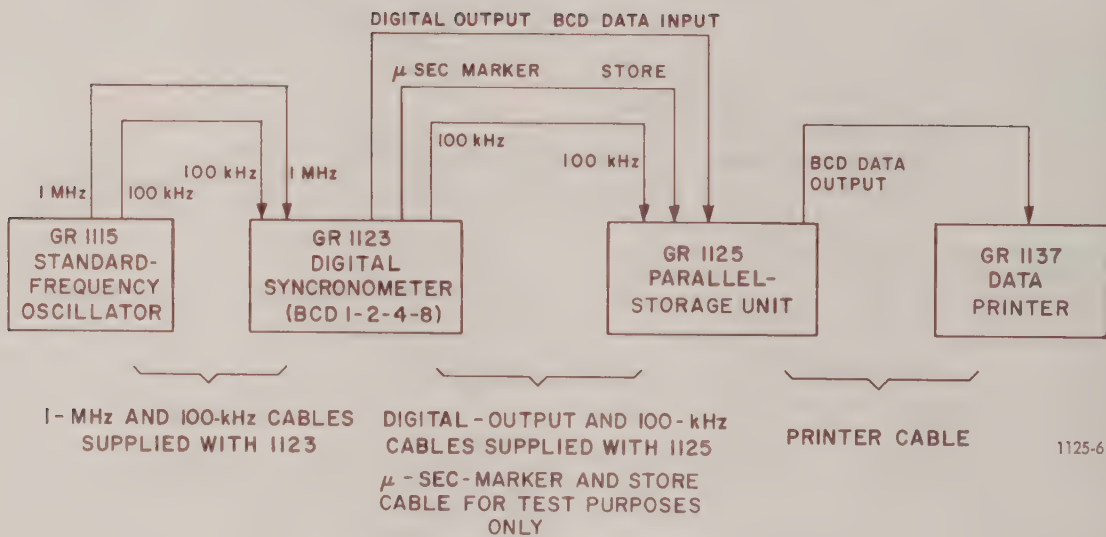

Figure 2-6. Interconnection of storage instruments.
2.3.2 Signal Cables (Figure 2-6).